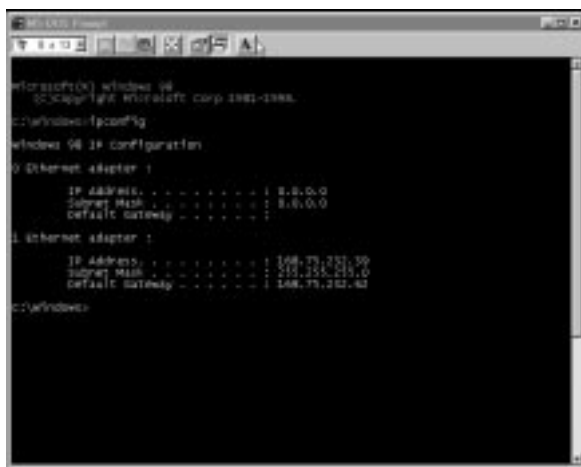

Figure 2-3. Ipconfig results MSDOS Window
1. Click on Start, Programs, MS-DOS Prompt. Type the following at the command line followed by pressing the Enter key: `ipconfig`. You should see the following (Figure 2-3):